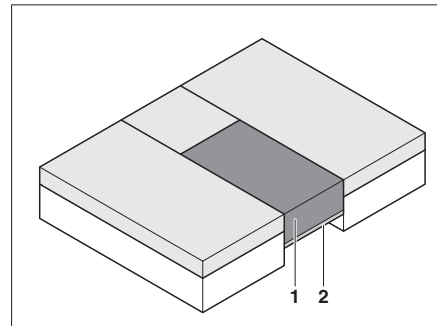

Fig. 79 After conversion
- Place the additional cushion (Fig. 79,1) on the extended slatted frame (Fig. 79,2).